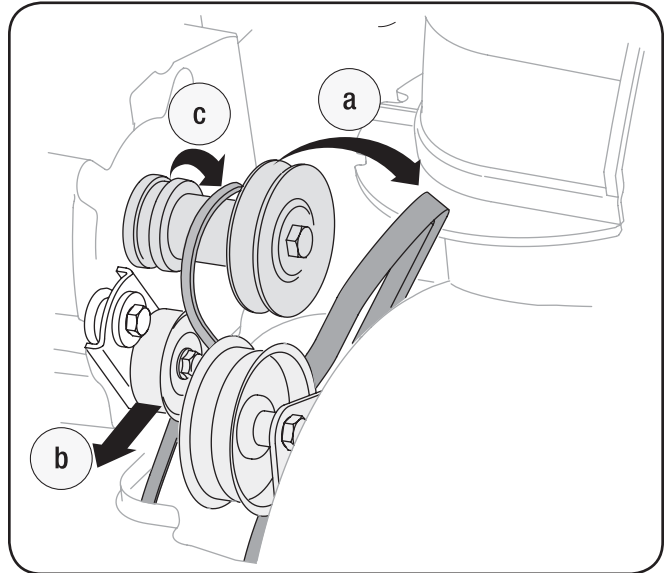

Figure 7-6
- a. Roll the auger belt off the engine pulley. See Figure 7-6: